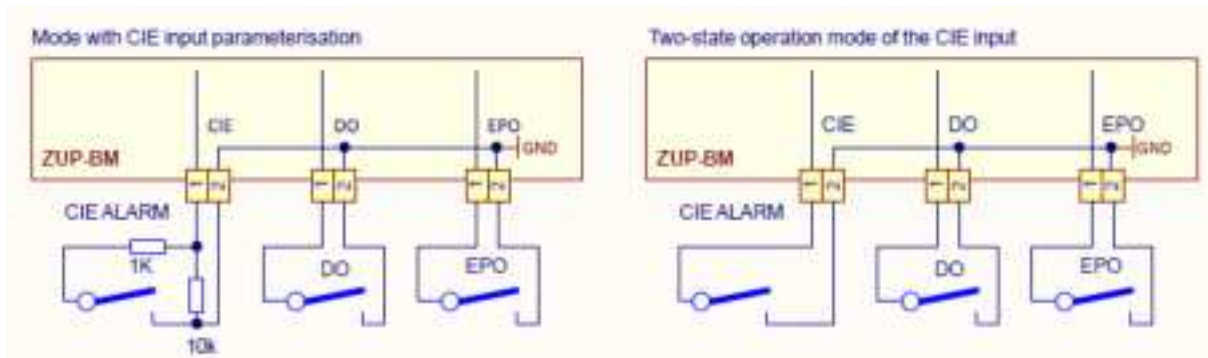

Fig.15 Connections for the **CIE** fire alarm input, **DO** gate opener button and **EPO** circuit breaker.
- resistors parameterising this wire should be connected to the **CIE** input as shown in Fig. 15. with the 1kΩ resistor circuit being open (no fire alarm);